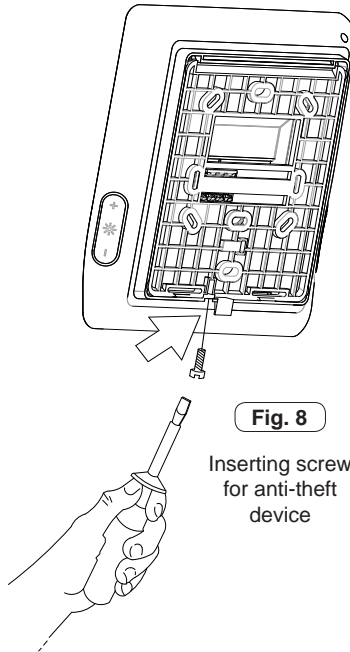

Fig. 8
5. You can prevent the indoor station from getting unhooked as shown in Figure 8 with the anti-theft screw housed in the mounting plate (see Fig. 5).